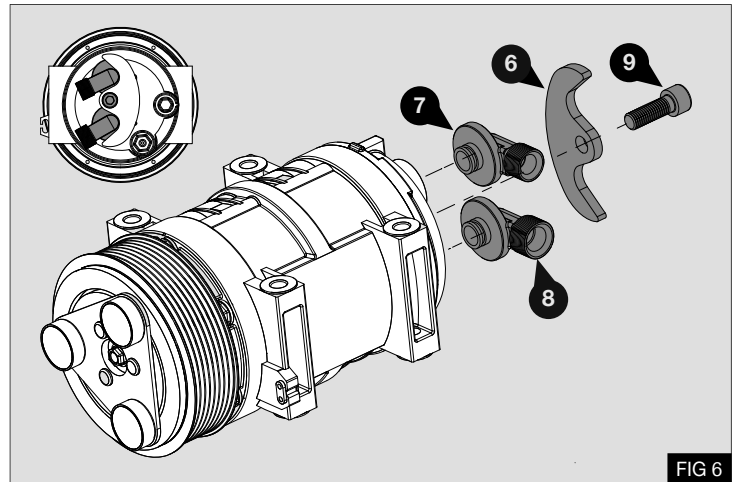

FIG 6
1. Fit the supplied compressor fittings (7) and (8) as shown opposite, secure using clamp (6) and M10 x 30 bolt (9) - Fig.6
3. Torque bolt (9) to 45Nm / 33lb.ft using a calibrated torque wrench - Fig.6
NB: Align supplied suction and discharge fittings as shown in - Fig.6